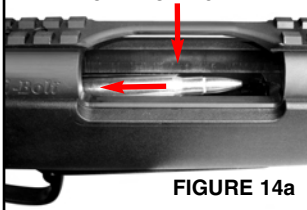
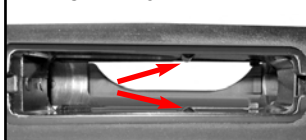

FIGURE 14a
FIGURE 14b
- Insert the cartridges down through the ejection port and “snap” them into place in the magazine well (Figure 14a), pushing them down and then rearward until the shoulder of the cartridge is behind the side “ribs” inside the magazine well (Figure 14b).